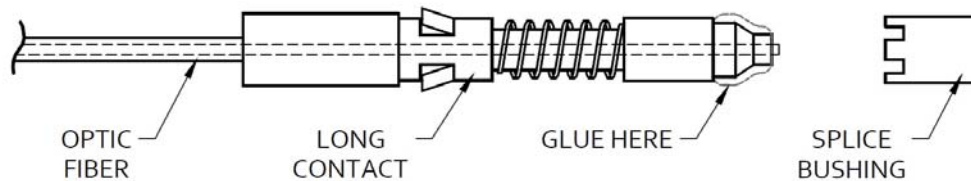

Figure 6.3
13. Press splice bushing onto end of contact. See Figures 6.3 and 6.4.